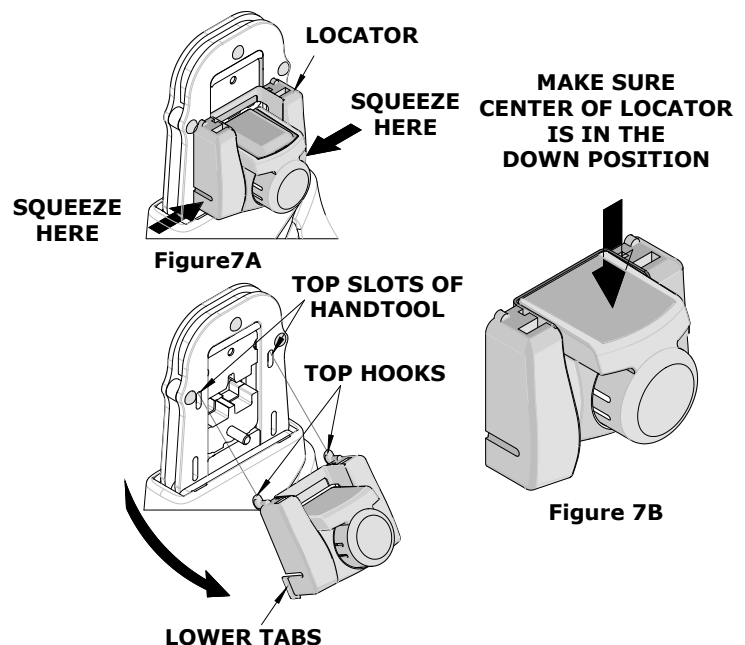

Figure 7B
- Press the center of the locator down as far as it will go as shown in Figure 7B.